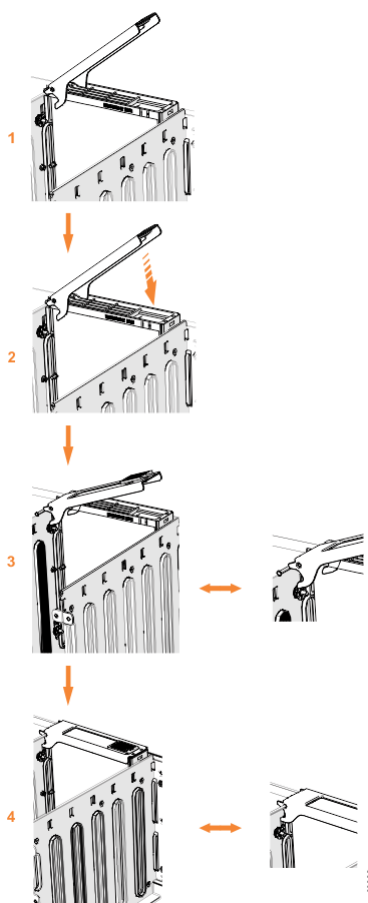

Figure 133. Replace the drive
14. Ensure that the drive handle (1 in Figure 133 on page 180) of the drive assembly is in the open (unlocked) position.
16. Lower the drive down, without pushing, until it stops and the bottom of the latch is aligned with the top of the partition. Ensure that the handle is not open more than 45 degrees from the drive carrier. (2 in Figure 133 on page 180). If the drive does not slide down easily then inform IBM remote technical support.
17. Rotate the handle down to lock the drive assembly into the chassis (3 in Figure 133 on page 180).
19. Ensure that the top toe of the latch is also fully engaged (4 in Figure 133 on page 180).